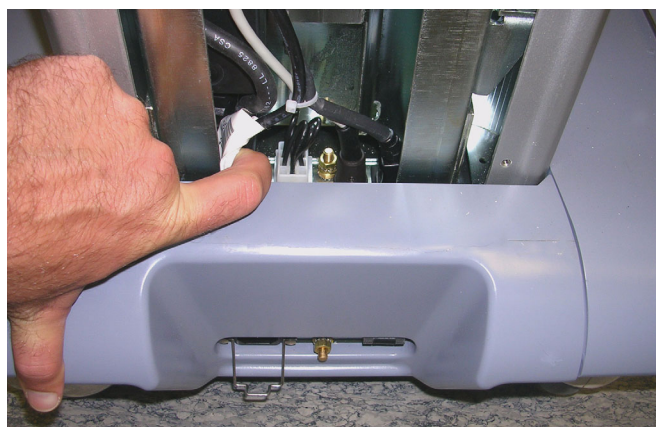

Figure 3-16 Jumper on AC Unit
- 2) Remove the bottom cover (rear) from the SafeLock Cart to provide access to the jumper on the AC unit. See Figure 3-16 below.